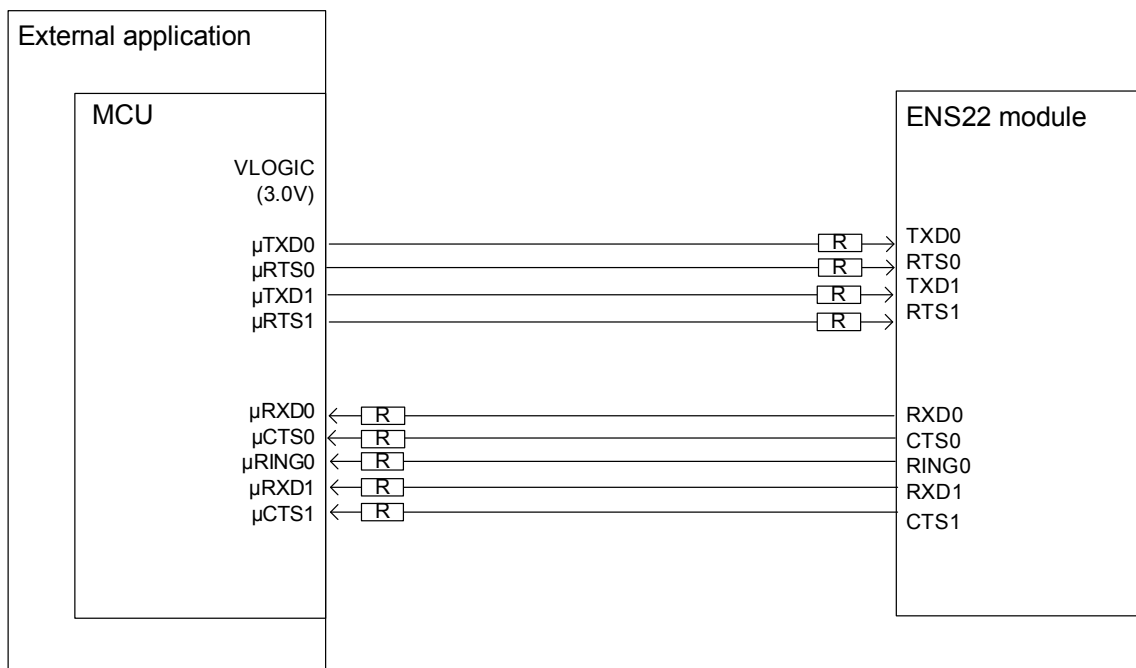

Figure 19: Sample circuit for Table 8 signals
1. If the IO domain of the application is 3V, the signals mentioned in Table 8 can be connected via a serial resistor directly. See Figure 19.